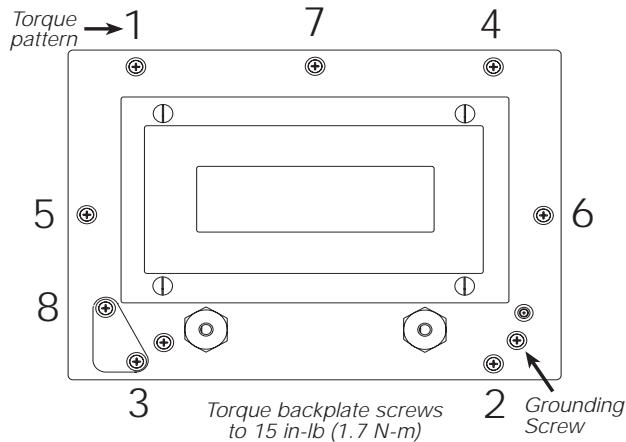

Figure 2-4. IQ plus 590-DC Enclosure Backplate
- One 8-32NC x 7/16 fillister head screw (PN 30623). This screw occupies the hole below the setup switch access screw on the indicator backplate (see Figure 2-4 on page 7).
**NOTE:** A grounding screw is provided on the indicator backplate for connecting a grounding wire (see Figure 2.4 on page 7).
Once cabling is complete, position the backplate over the enclosure, reconnect battery cable, and reinstall the backplate screws. Use the torque pattern shown in Figure 2-4 to prevent distorting the backplate gasket. Torque screws to 15 in-lb (1.7 N-m).